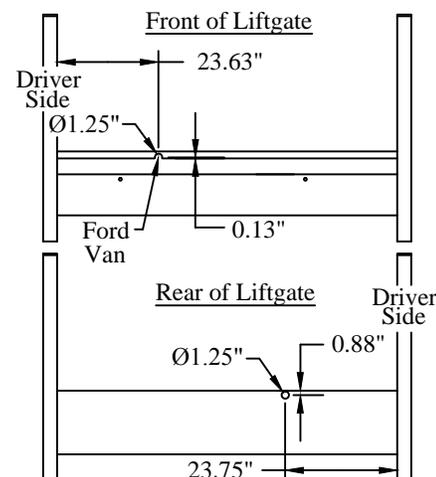

Figure 14: Spare tire access.
2. **Verify** spare tire access operation by inserting the spare tire crank rod through the access hole (Figure 14).